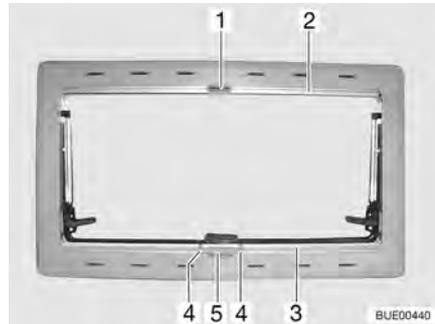

Fig. 67 Hinged window
- Press handle (Fig. 67,4) and draw blind (Fig. 67,3) from the bottom to the top up to the desired height.
- Clench handle (Fig. 67,4). The latch is released.
- Slowly return the blind (Fig. 67,3) to its initial position.
- Pull insect screen (Fig. 67,2) down until it touches the blind (Fig. 67,3), and engage the closure latch (Fig. 67,1) in the locking device (Fig. 67,5).
- Release the closure latch (Fig. 67,1).